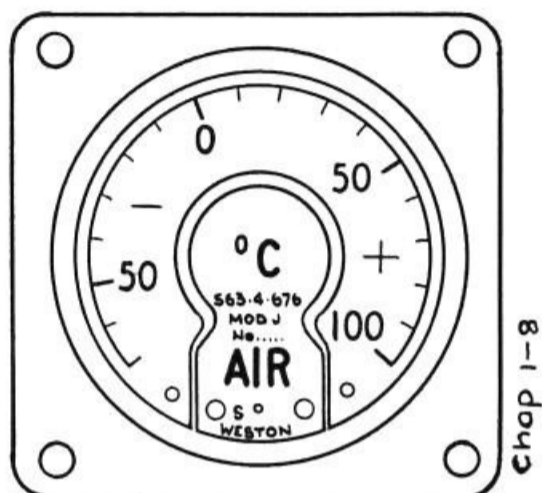

Fig. 1. Indicator, Type S63.4.676
1. This indicator (Ref. No. 6A/3303) (*fig. 1*) is calibrated in degrees C from -70 to $+100$; the indicator is controlled by variation of temperature in a resistance bulb which obeys a platinum law.